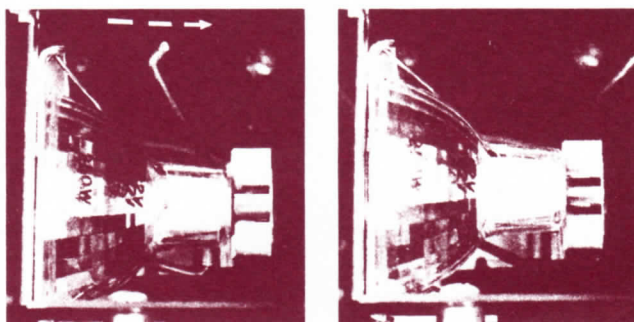

Figure 6
5. Pull lamp ejector (item 18) to right and remove old lamp. See Fig. 6.